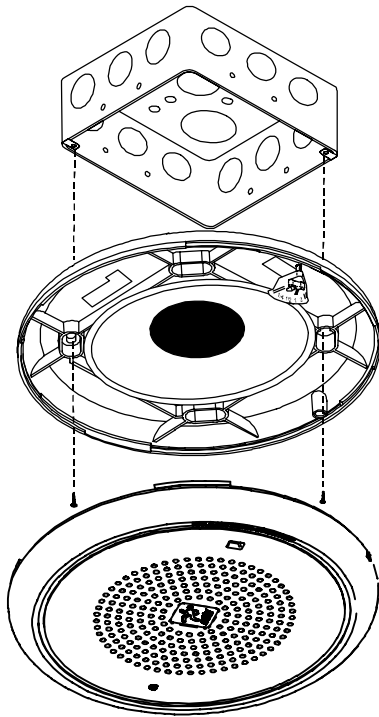

Figure 3: Mounting diagram (flush mounted electrical box)
4. Mount the unit onto a compatible electrical box. The switch selector position must be as shown in Figure 3.